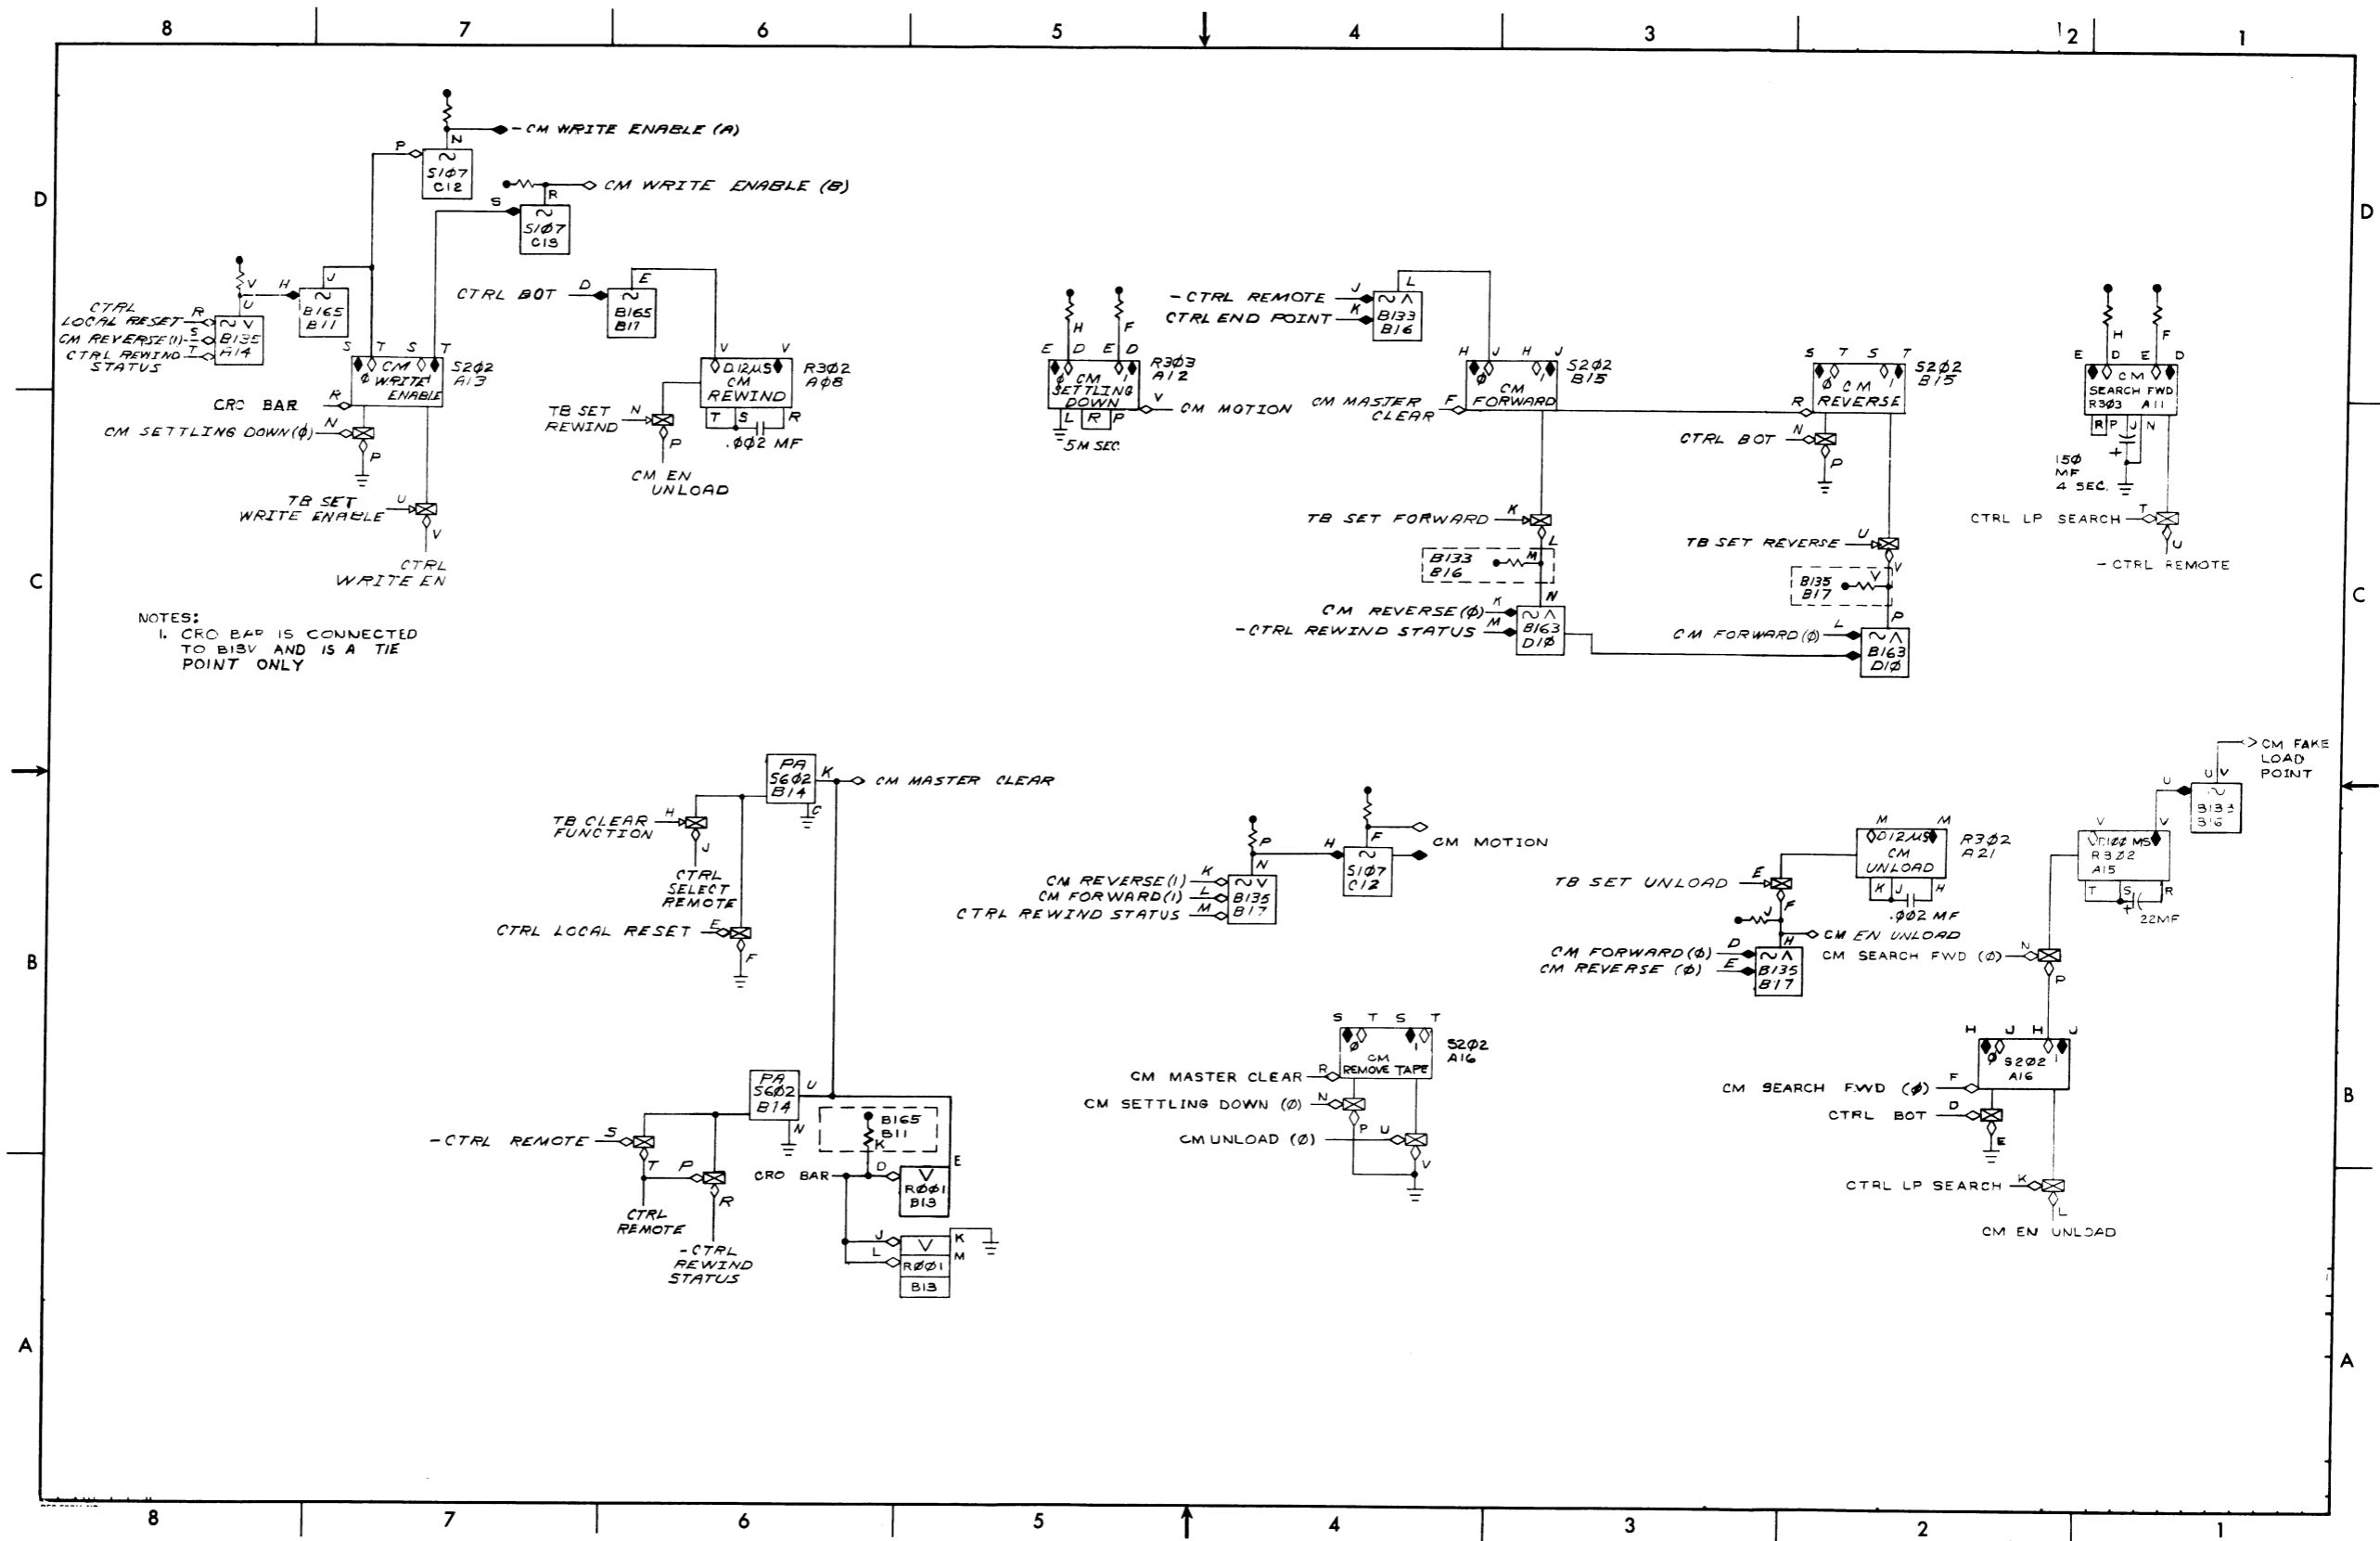

Figure 4-3 Command Logic Block Diagram
**4.1.1.3 Command (CM) -** This functional block (Figure 4-3) contains all motion control flip-flops and delays, the write enable flip-flop, and all start up and crobar circuitry.